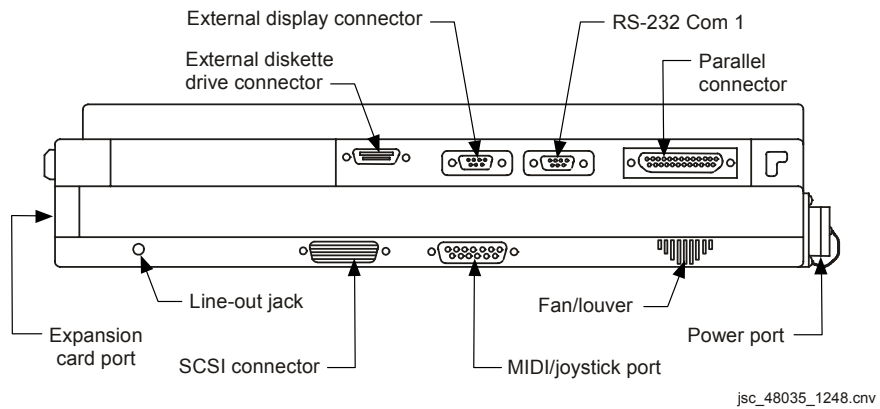

Figure 12-11.- Printer (top view/back view), PGSC (parallel port).
Connect AC PWR cable to Printer Power Port (see figure 12-11)
Connect network cable, T-connector to Printer Network Port (see figure 12-11)
Connect parallel cable between Printer Parallel Port and KFX PGSC Parallel Port (see figure 12-11)
- Printer 4. Printer pwr – on (see figure 12-11)
Disconnect network cable, T-connector from Printer Network Port (see figure 12-11) |
Disconnect parallel cable between Printer Parallel Port and KFX PGSC Parallel Port (see figure 12-11) |